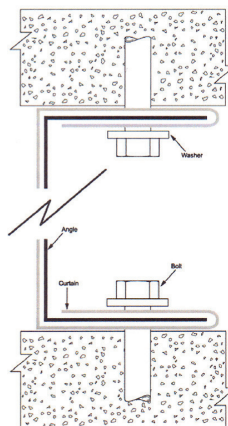

Figure 1
2. Fold edge of curtain around a mild steel framing angle with dimensions of 40 mm x 50 mm x 0.8 mm \leq 1mm. As shown in figure 1.
5. Secure the top perimeter framing angle, followed by fixing and side perimeter angles, as specified above. N.B. The curtain must cover three sides of the angle, as shown in Figure 1.